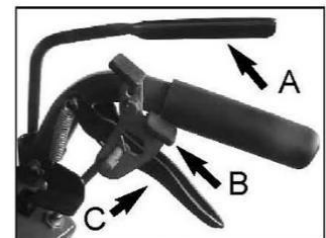

Figure 4
1. Making sure that the traction control levers are in the neutral position, push down and hold the operator presence control lever "A" on the handle grips with one hand (figure 4).